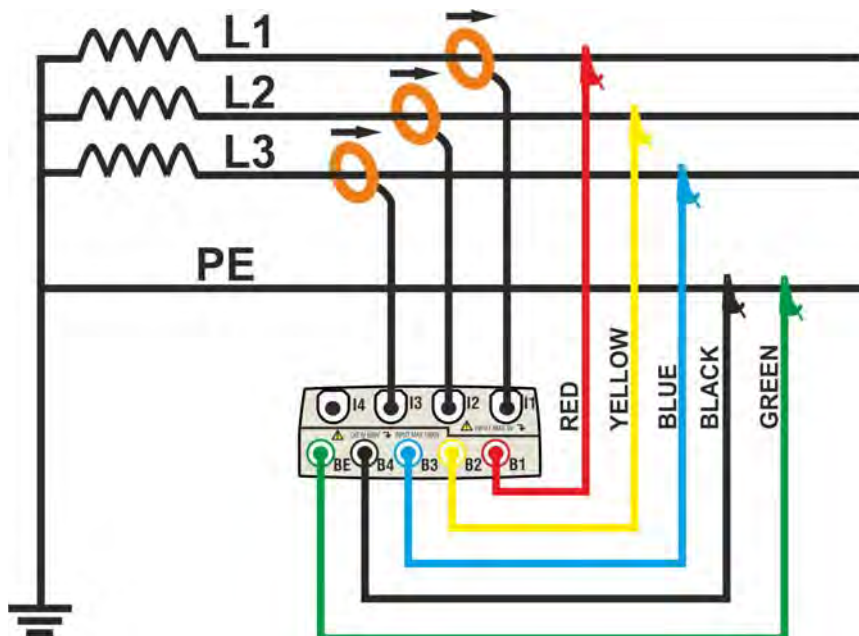

Fig. 135: Meter connection in a three phase 3WIRE system – ENG_UK type
2. Connect voltage test leads on Phases L1, L2, L3, and Ground cables respecting the colours as shown in Fig. 135. **Verify the result "123" at display relative to a correct phase sequence indication** (see § 5.2.1) and perform the corrections if necessary.
3. Connect the transducer current clamps on Phase L1, L2, L3 cables as shown in Fig. 135 respecting the clamp's arrow direction indicating the current standard sequence from generator to load. **On Real Time Values' section screens always verify the positive value of Active Power and the power factor relative to load which should be normally inductive** before starting a recording. Reverse the clamp by 180 degrees on cables in case of negative readings.